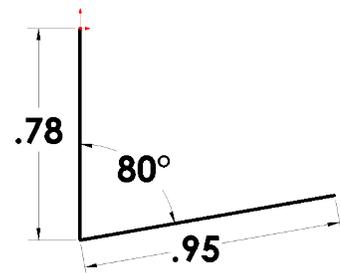

Fig. 3
Step 5. Click **Smart Dimension**  (S) on the Sketch toolbar.
Step 6. Dimension lines **.78** and **.95** and angle **80**, **Fig. 3**.